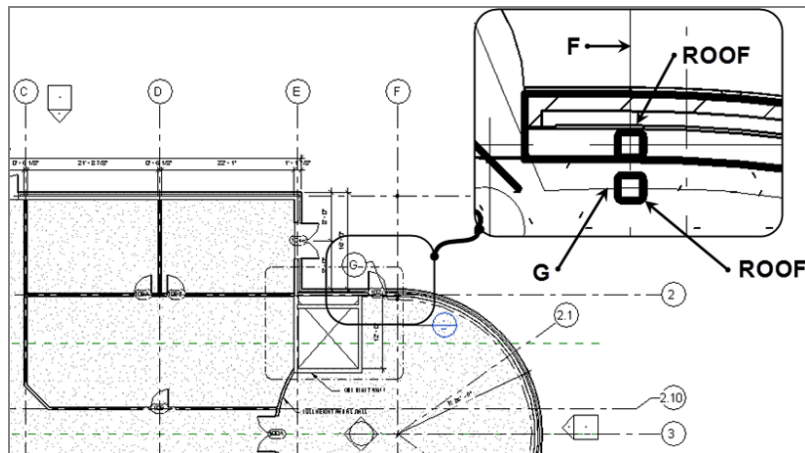

FIGURE 8.25: Placing the two additional columns
15. Place another column at grid intersection F-G (see Figure 8.25).